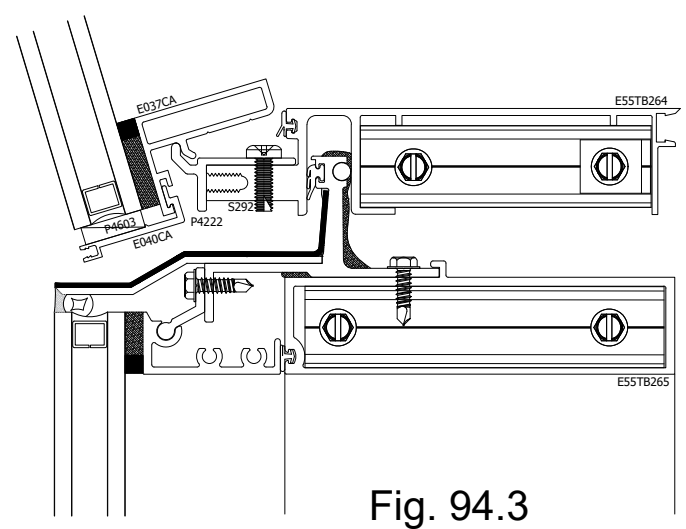

Fig. 94.3
- Step 4: Install pre-glazing Cassette frame, roll over P4222 anchor clip and secure at head and jambs. See Fig. 94.3.